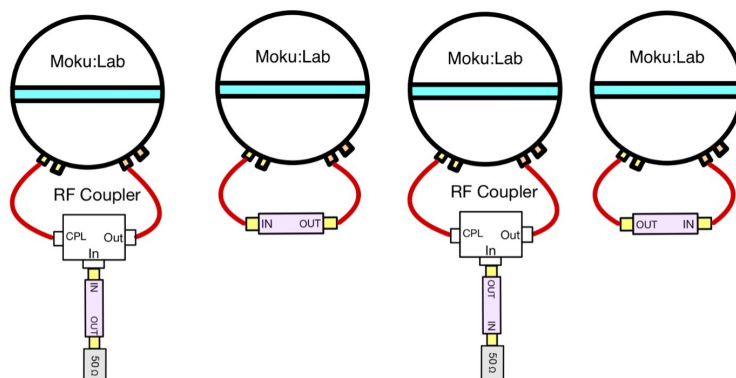

Figure 28. Configurations for each of the S-parameter measurements; from left to right the S_{11} , S_{21} , S_{22} , S_{12} configurations are shown.
Four measurements will be made, one each for the S-parameters S_{12} , S_{11} , S_{22} , S_{21} . Figure 28 shows the measurement configurations taken with a Moku:Lab, the 2-port filter (BPF) and RF
- Configure the inputs and outputs with the filter and termination, as shown in Figure 28.